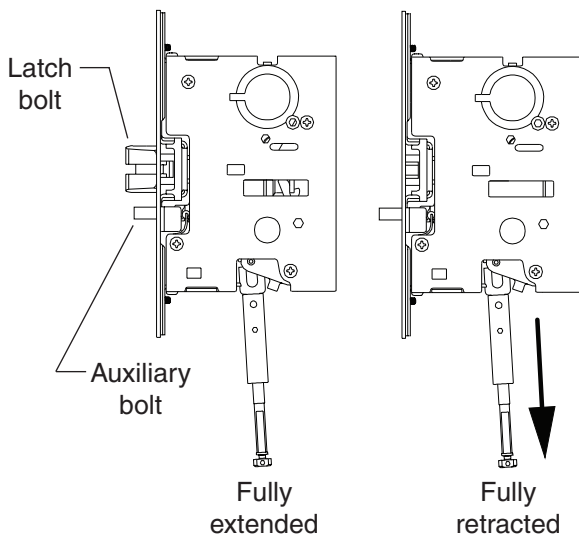

Figure 8-1
- Fully depress and hold pushpad and pull rod connector to set mortise lock latch bolt in fully retracted (hold) position (Figure 8-1).